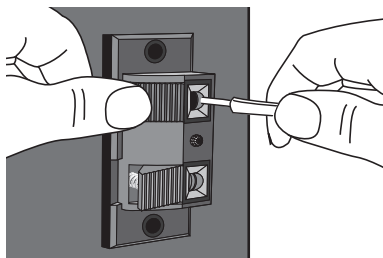

figure 7
3. Insert stripped wire (**figure 7**).